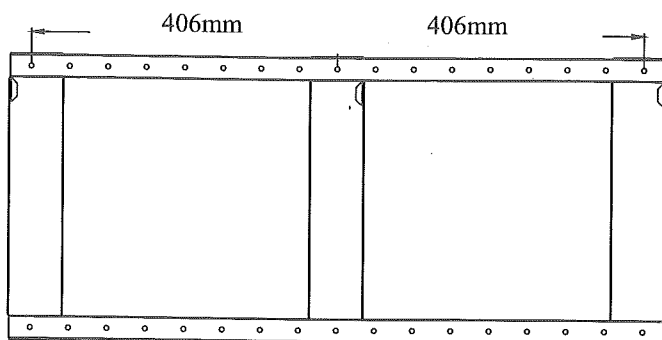

Fig. 3
2. Choose a solid plain wall and put the bracket in the position where you want to install the fireplace. Mark holes with a pen (6 for EF68/69PEN, 8 for EF70/71PEN, 10 for EF72PEN) using the holes in the mounting bracket as a guide (Fig. 3)